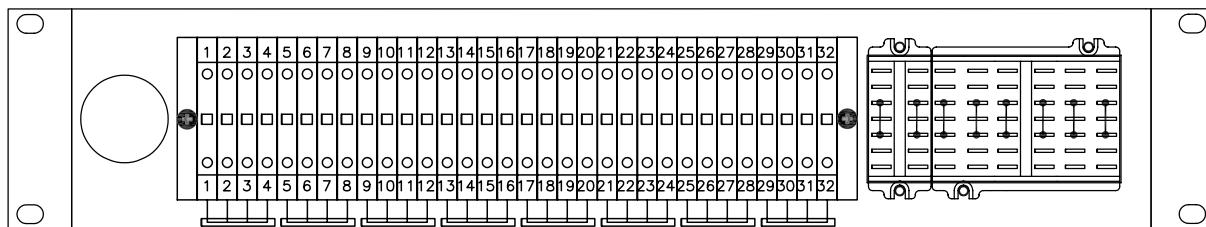

Figure 2: Front view with fuse compartments F1...F32 and receptacles for circuit breakers F 33...F 40
**Views:****Figure 2: Front view****Figure 3: Top view****Figure 4: Rear view**
**Mechanical construction and dimensions:****Figure 2: Front view**